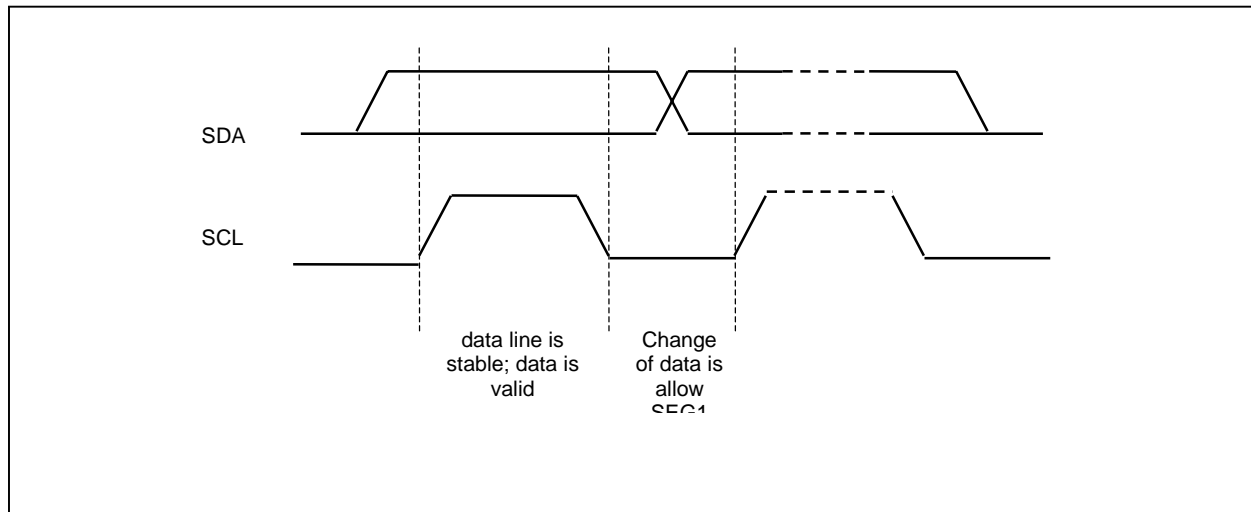

Figure 14 : Definition of the data transfer condition
1. The data bit, which is transmitted during each SCL pulse, must keep at a stable state within the "high" period of the clock pulse. Please refer to the Figure 14 for graphical representations. Except in start or stop conditions, the data line can be switched only when the SCL is low.